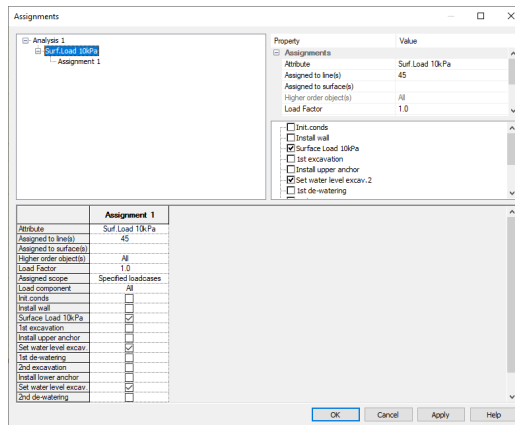

Figure 57: Selection of stages for the application of the surface load
- In the Attributes treeview, right-click on the load attribute **Surf.Load 10kPa** and then click on **Edit Assignments...** Check the tick-boxes for loadcases **Surface Load 10kPa**, **Set water level excav.2** and **Set water level excav.3**. Make sure that the other tick-boxes are unchecked (figure 57). Click **OK**.